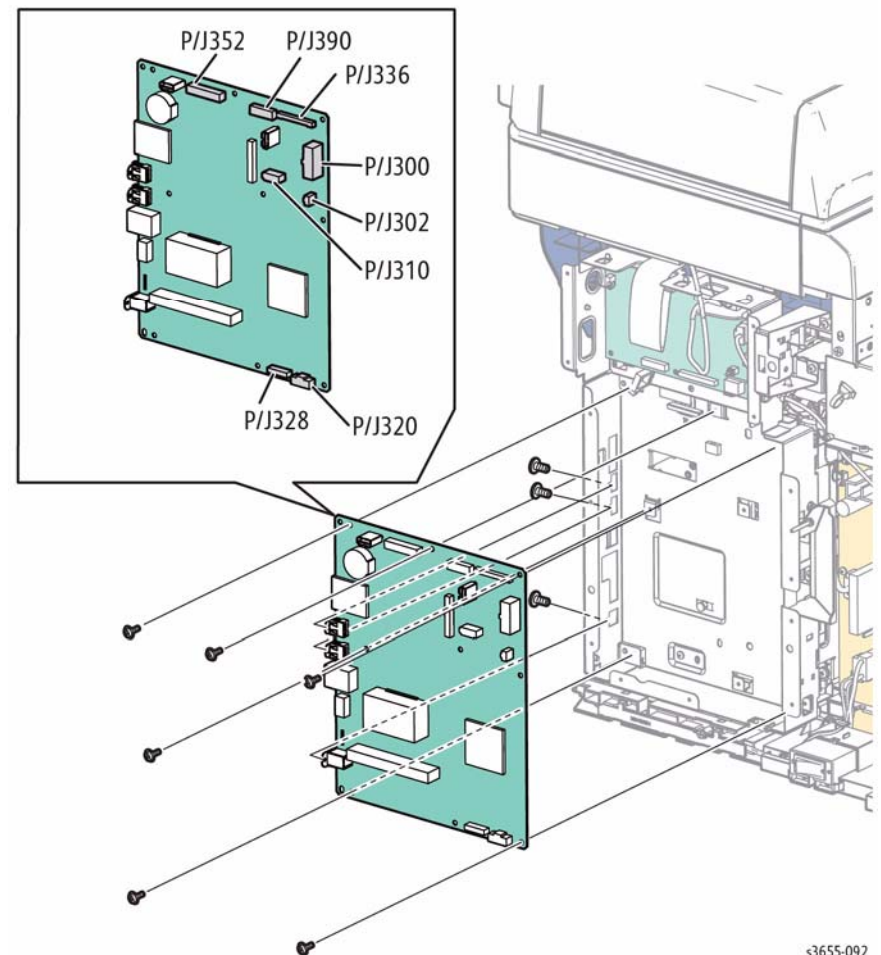

Figure 1 Remove the IP Board
10. Refer to Figure 1 and disconnect all connections to the IP Board, then remove 5 screws (silver, with a washer, M3, 6mm), 3 screws (silver, M4, A6mm) that secure the IP Board to the ESS housing.